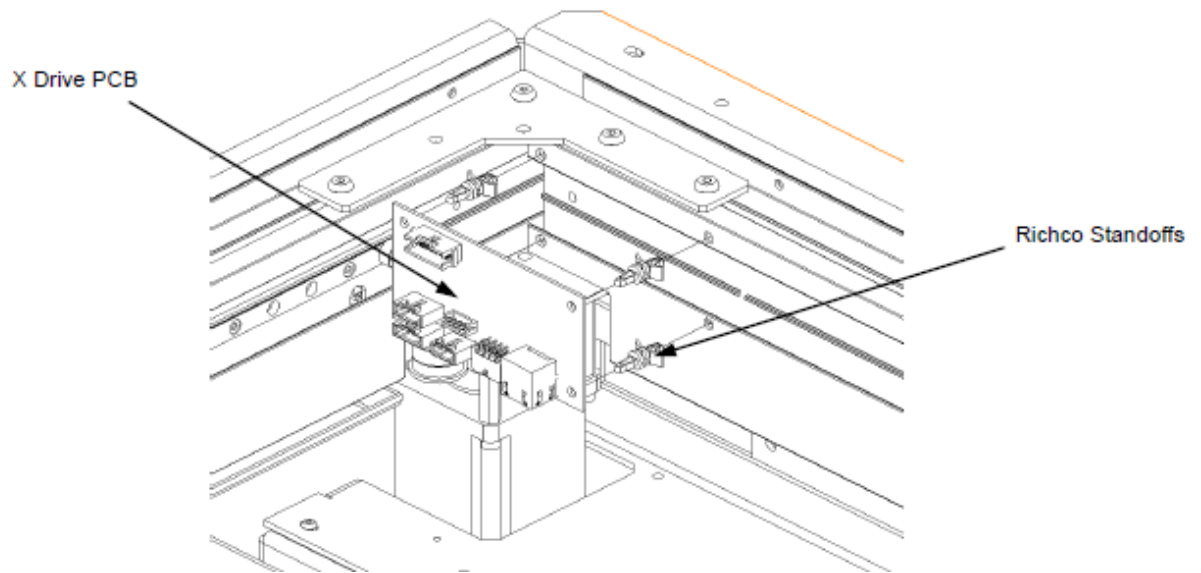

Figure X-29: Inserting Richco LCBS-6M-01 Standoffs
11. Press four Richco LCBS-6M-01 Standoffs into the X Drive extrusion in the orientation shown in Figure X-29 and then press the X Drive PCB (14001030) onto the Standoffs as shown.